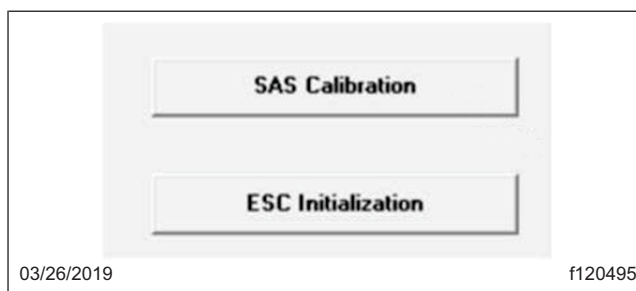

Fig. 5, Selecting SAS Calibration or ESC Initialization
4. In the message box that appears, select 'SAS Calibration.' See Fig. 5.
- Select 'ESC Initialization.' See Fig. 5.